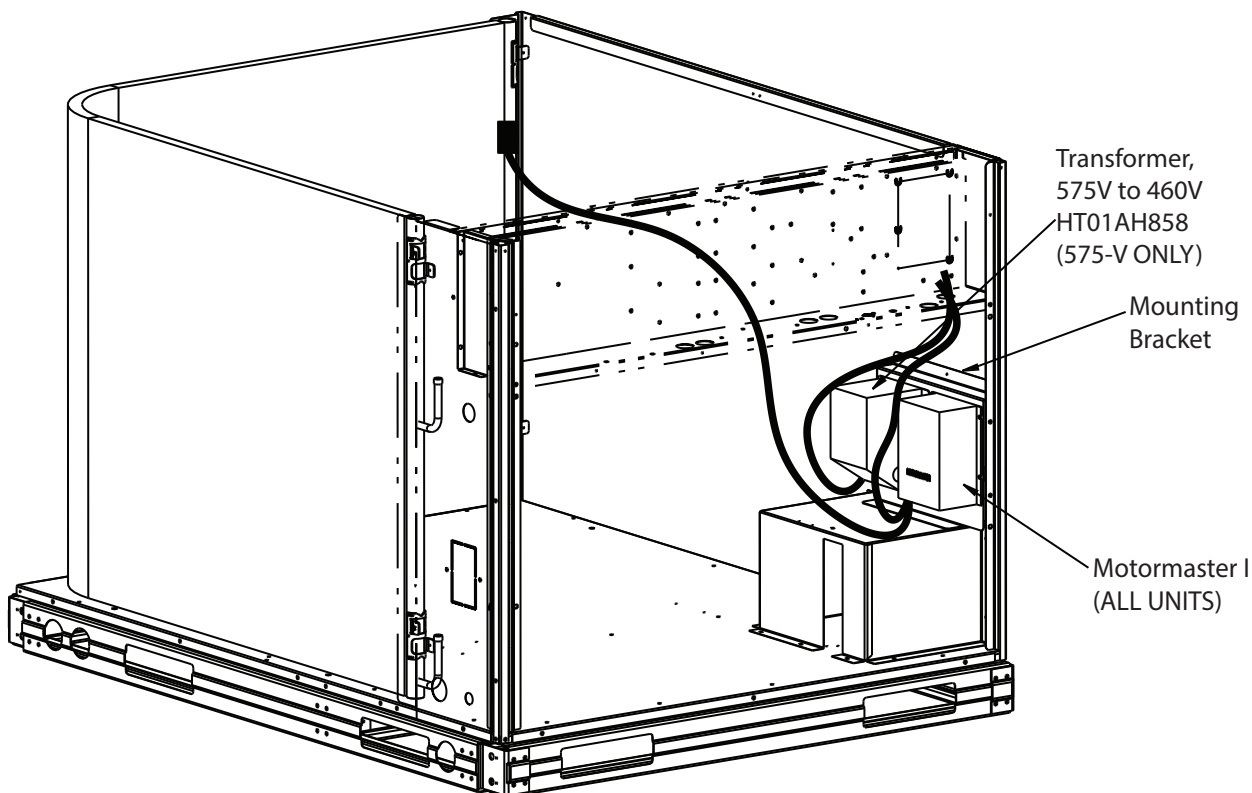

Fig. 2 - Motormaster Control Mounting
4. Attached the plate to inside of the unit panel per Fig. 2 with six #10 screws.
6. Attached the plate to inside of the unit panel per Fig. 2 with six #10 screws.